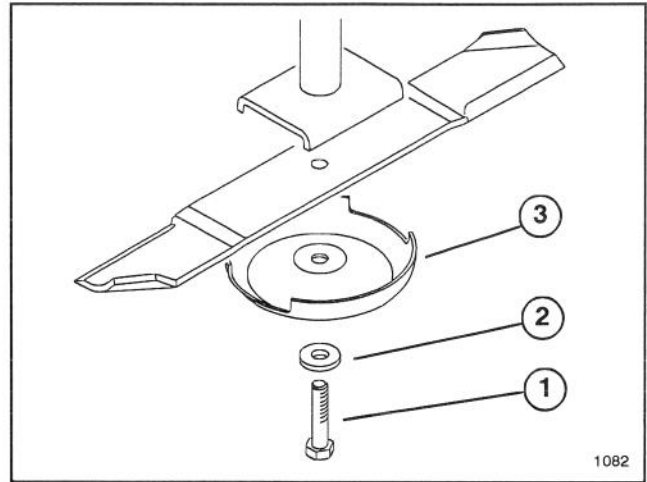

Figure 11
2. Hold the blade end using a rag or thickly padded glove. Remove blade bolt, flatwasher, anti-scalp cup and blade from spindle shaft (Fig. 11).
3. Install blade-sail facing toward cutting unit with anti-scalp cup, flatwasher and blade bolt (Fig. 11). Torque blade bolt to 85–110 ft. lb.